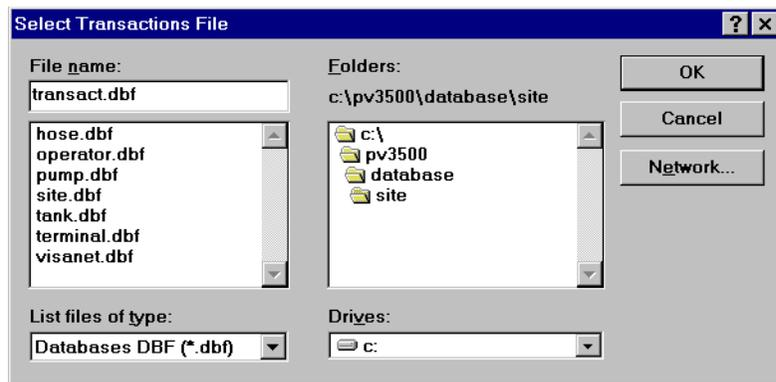

Figure 49: Select Transaction File Dialog Box
1. Select **Site > Transactions > All**. This form (*Figure 49*) lets you browse transaction database files (".dbf"s) stored in your local computer.